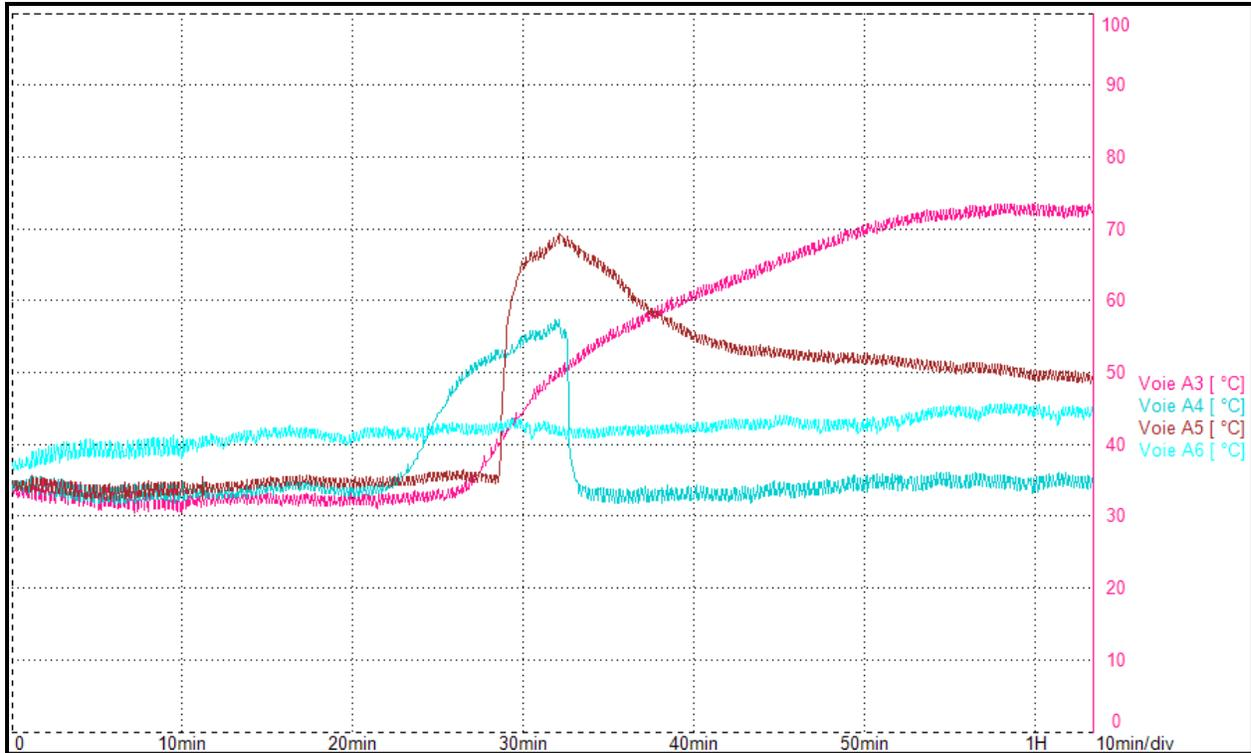

Figure 11
- Figure 11 illustrates all the temperatures measured during the test. From the legend, A1 and A2 are the temperatures of the cells intentionally set into thermal runaway (top and the bottom pack respectively). A3 is the lid temperature and A4, A5 and A6 are the temperatures of the sidewall of the 30-gallon poly drum.